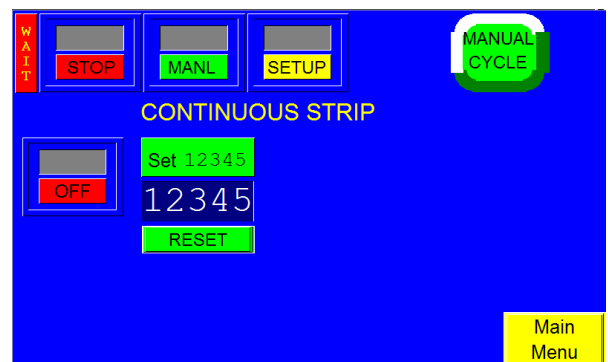

Figure 3-32
**Continuous Strip Counter:** This option allows you to seal bags in a strip, without separating them at the perforation. If you set this counter value to 10, for instance, you will have a strip of 10 bags connected. The bagger will then reverse to separate the 11th bag. See Figure 3-32.